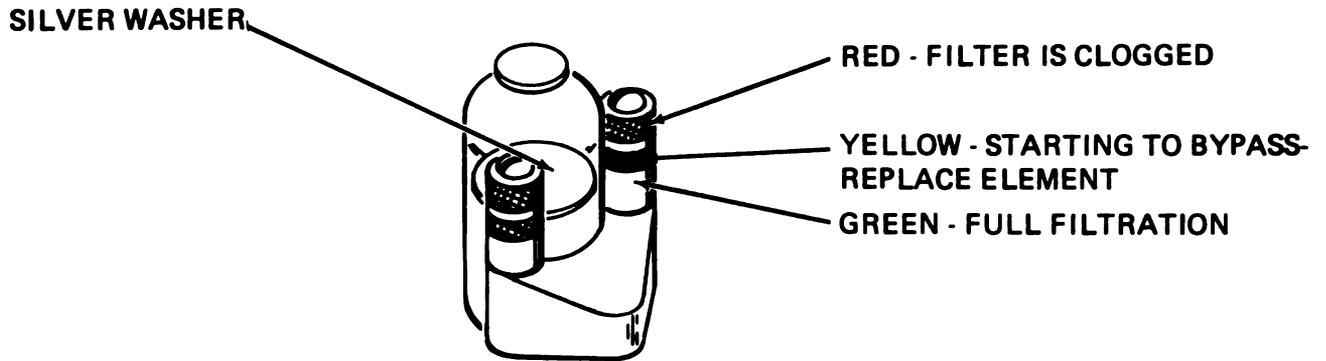
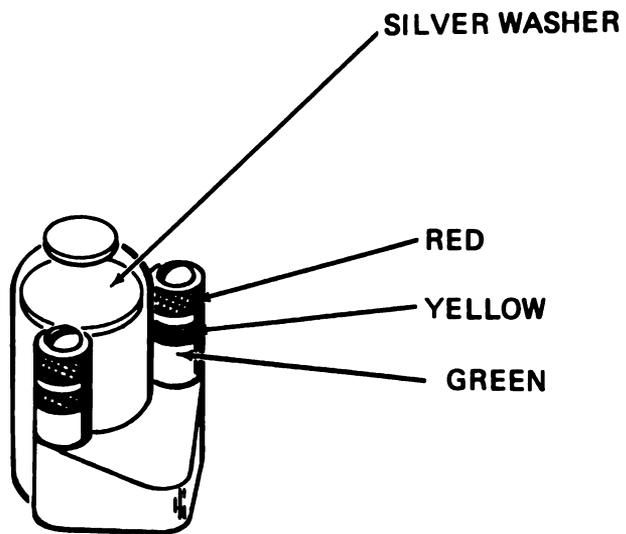

Figure 1-22. Filter Bypass Indicator, Reading Normal.
Figure 1-23. Filter Bypass Indicator, Reading Bypassed.
f. *Hydraulic System Flushing Unit.* A filter assembly (figure 1-21) and bypass indicator (figure 1-22) is provided with the HSTRU. To flush a hydraulic system, connect the flushing unit into the return line of the system being flushed. Use the pump of the unit being flushed to provide the flow. If the flow rate of the pump exceeds the flow rating of the flushing unit, the fluid bypasses the filter. When this happens, the indicator shows that the filter has been bypassed (figure 1-23). The hydraulic circuit pump speed should be reduced to an acceptable level (one which does not cause the hydraulic fluid to bypass the filter). Using this method, a contaminated hydraulic system can be flushed in twenty to thirty minutes.